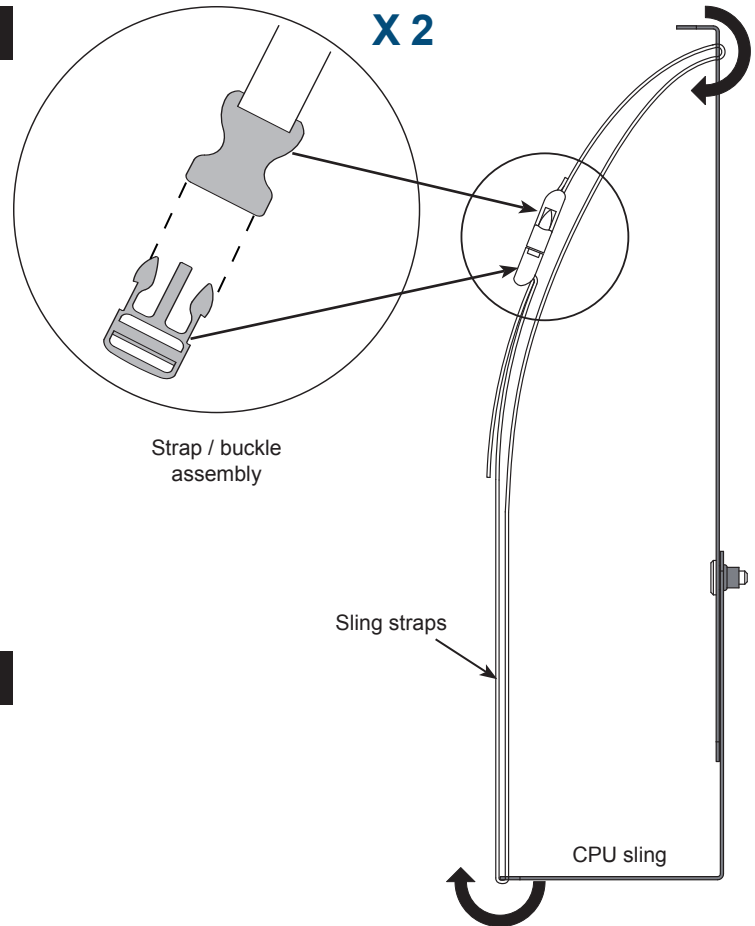

Figure 2
1. Using the slots, install the straps onto the sling. **Figure 2.** Make sure the CPU tower will be supported by both straps-the center slot can be used for better support of smaller CPU towers.